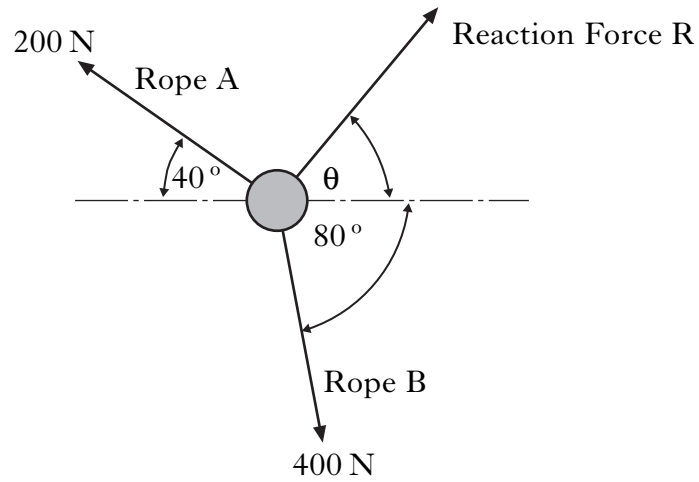

Figure Q3
The forces acting concurrently on the mooring post are shown in Figure Q3.
- (b) Calculate the change in length of rope B when loaded as shown in Figure Q3. 3